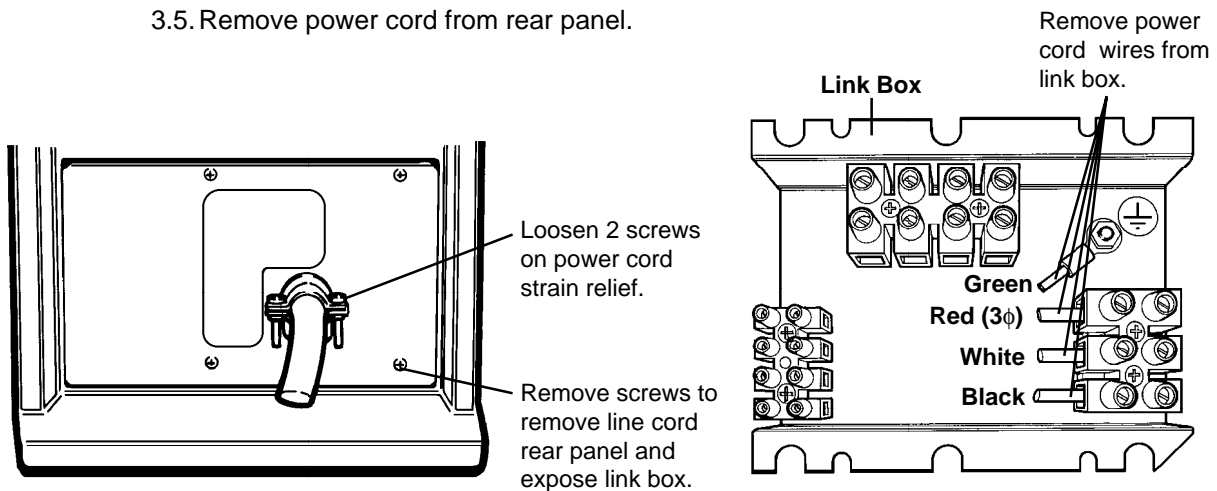

Figure 2-4 Removal of Power Cord from Powermax900 Power Supply
3. Remove power cord from power supply. See Figure 2-4.